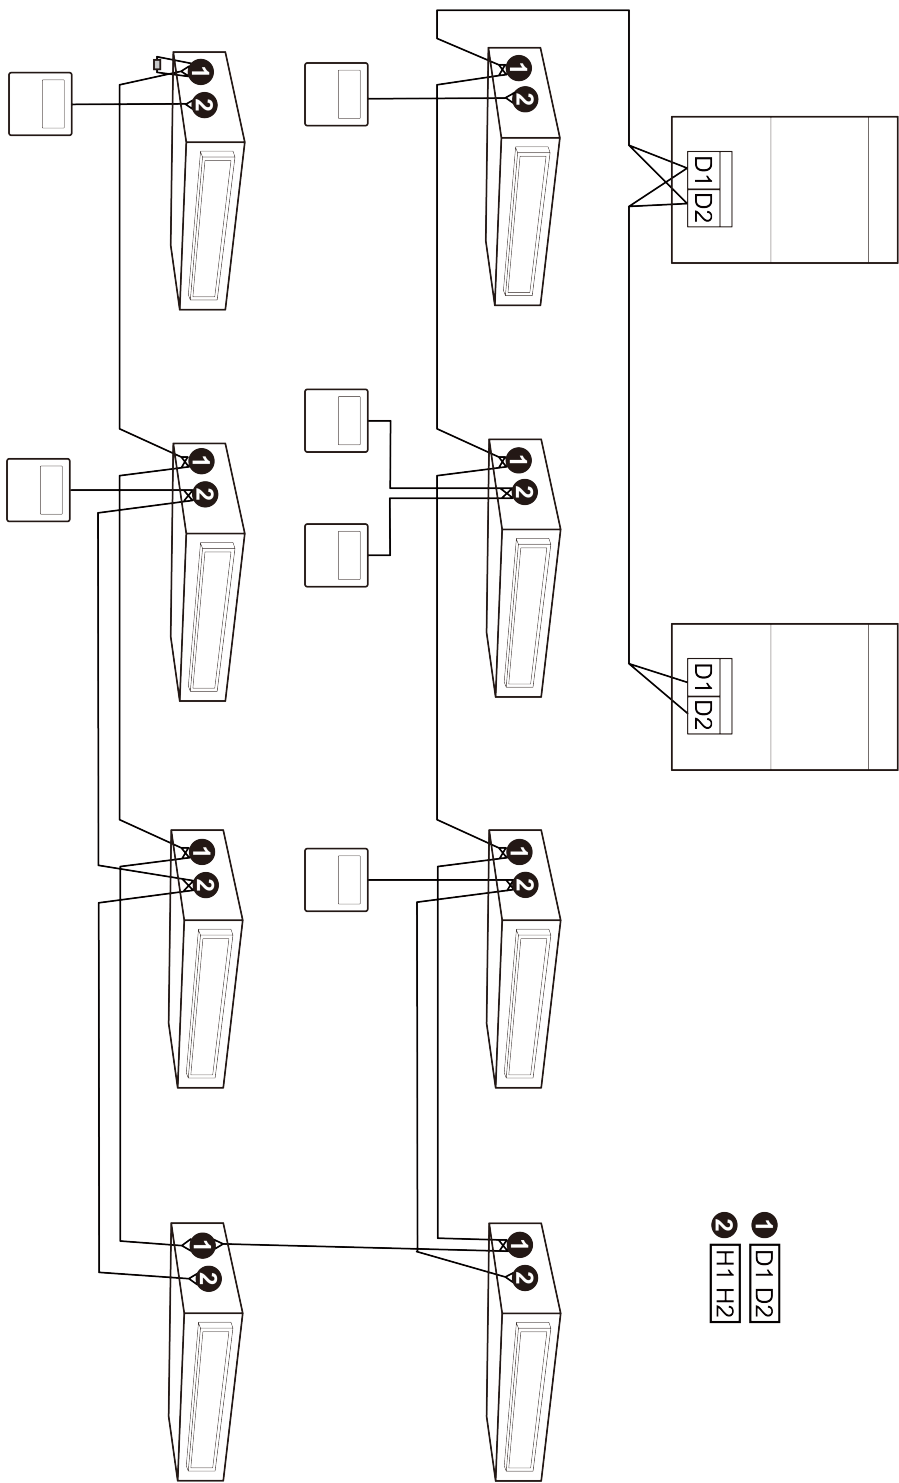

Fig.5.5
- (1) Communication wire of indoor unit and outdoor unit (or indoor unit) is connected to D1, D2.
- (2) Wired controller is connected to H1, H2.
- (3) One indoor unit can connect two wired controllers that must be set as master one and slave one.
- (4) One wired controller can control 16 indoor units in maximum at the same time (As shown in Fig.5.5).